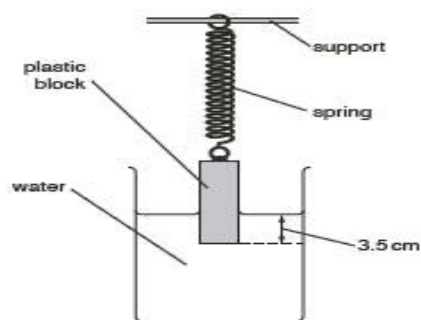

Fig. 8.2 (not to scale)
- (b) A rectangular, plastic block is suspended from the lower end of the spring. Fig. 8.2 shows that the bottom 3.5 cm of the plastic block is in the water in a beaker.
- (iii) In Fig. 8.2, the extension of the spring is 4.9 cm .
- (c) In the equipment shown in Fig. 8.2, the pressure of the atmosphere is transmitted through the water. The total pressure in the water at a depth of 3.5 cm is larger than the pressure due to the water alone.
- (d) The beaker in Fig. 8.2 is gradually moved upwards so that more of the plastic block is in the water.